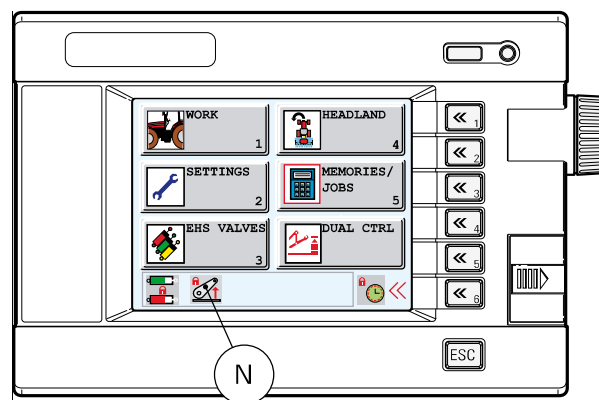

Fig. 2.
NOTE: If the tractor is fitted with Datatronic 3, the linkage lock is represented by an icon (N) fig. 2.